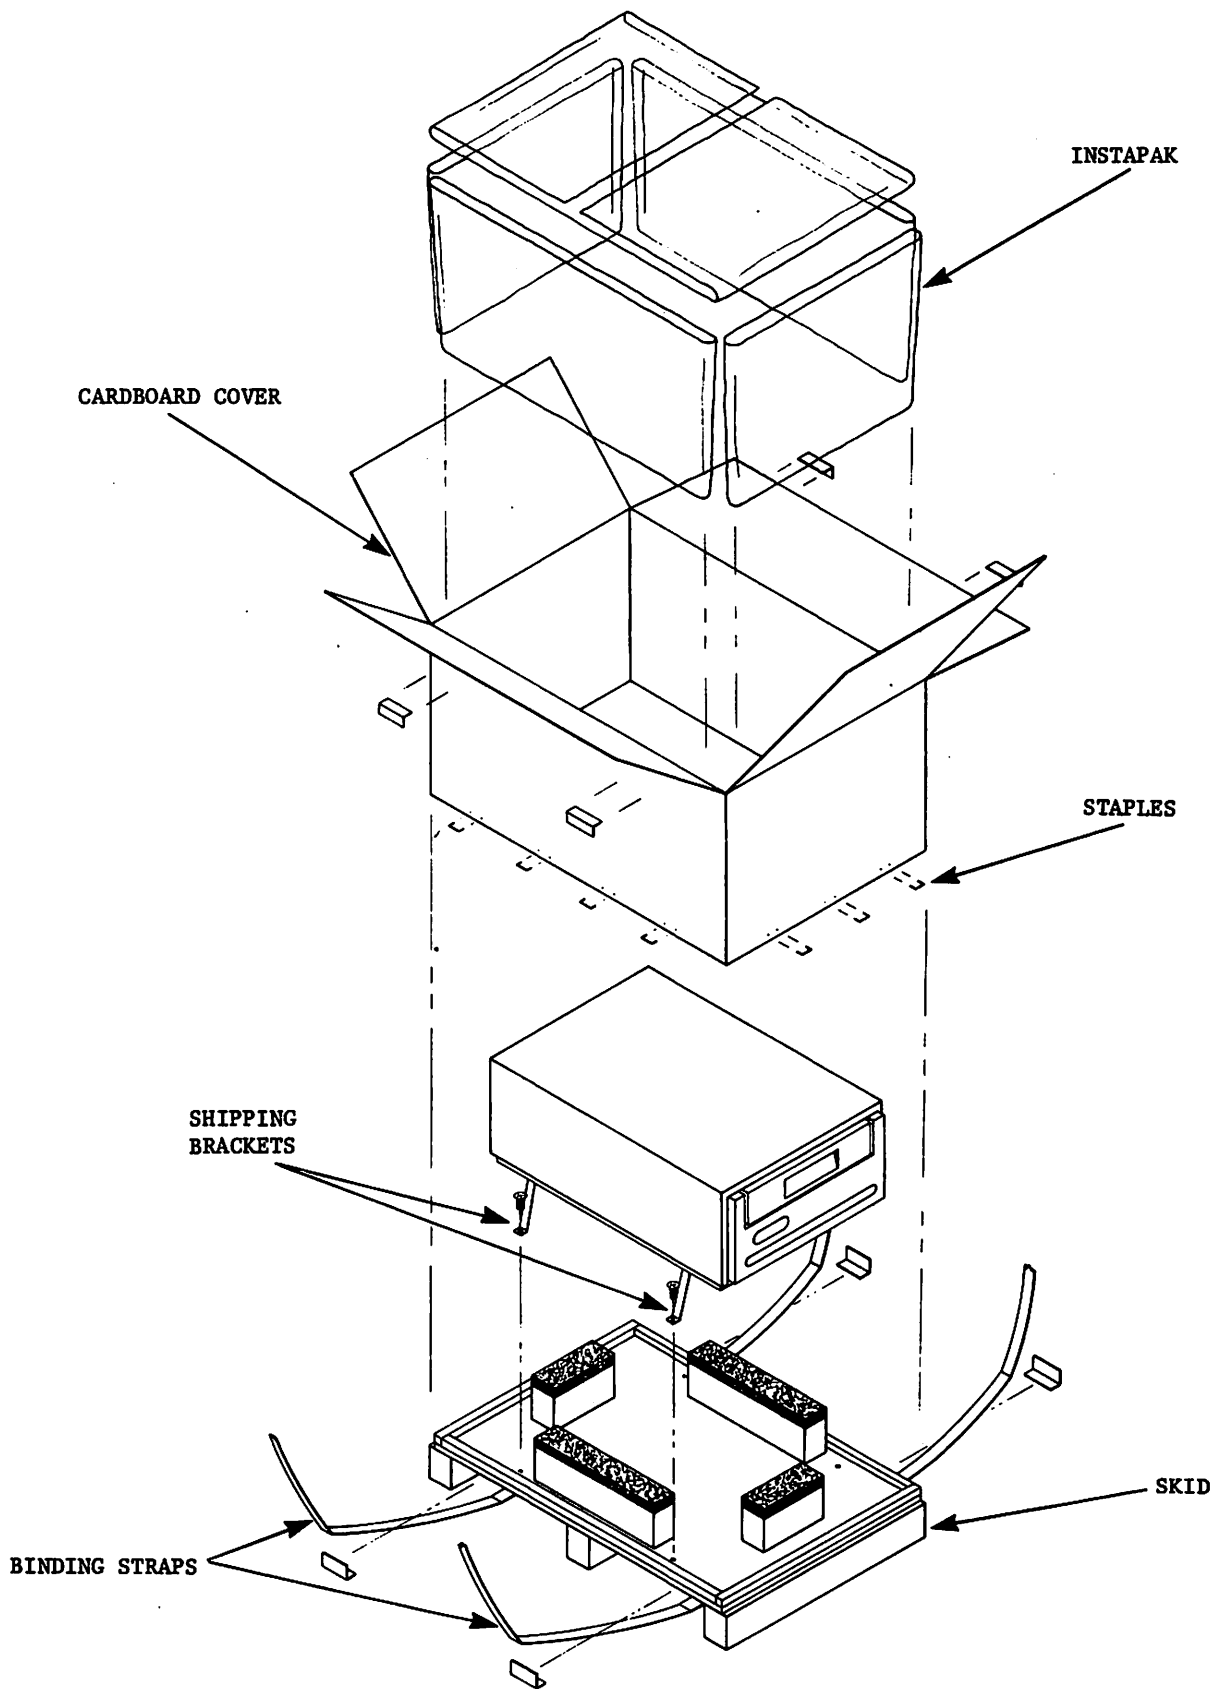

FIGURE 2-2 EXPLODED VIEW OF PACKAGED CMD
- b. Open the top of the cardboard carton and remove Instapak that surrounds the Drive. See Figure 2-2. Be careful not to lose or dispose of hardware package that is shipped internally on top of the Drive unit.
- d. With the Disk Drive exposed, remove the four short metal hold-down brackets that secure the Disk to the wooden support base. See Figure 2-2.